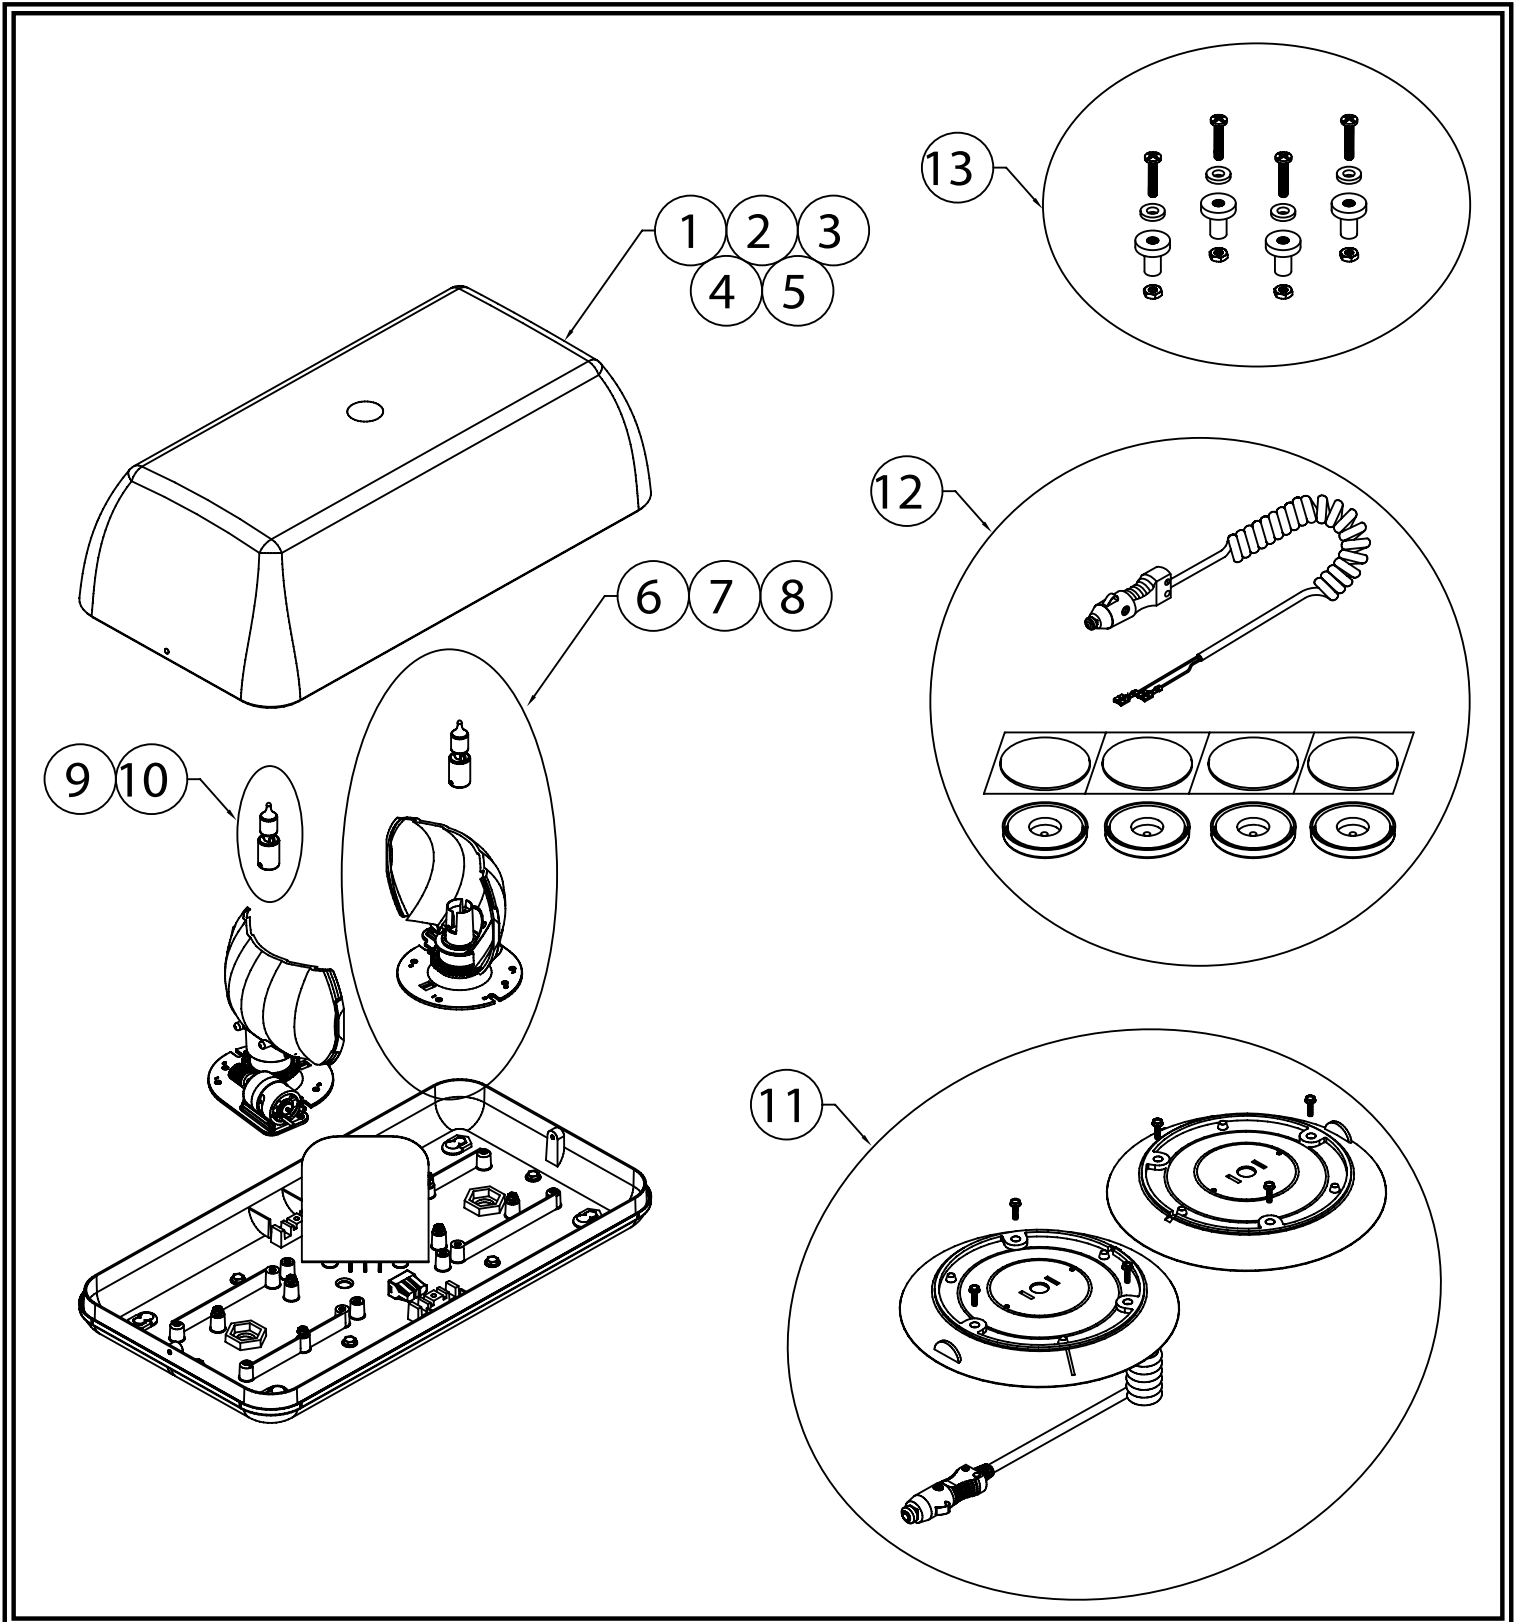

FIGURE 4
**Replacement Parts/Accessories(refer to figure 4:**